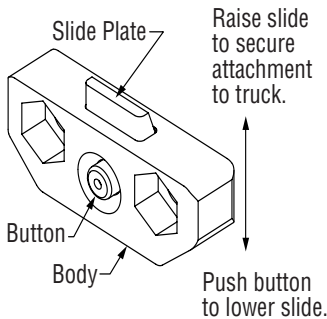

Figure 4-2, Quick hook
3. Remove the lower bolt-on hooks and, if applicable, make a note of any factory installed shims. Shims are used to create clearance between the hook and carriage. If the attachment is equipped with quick hooks, simply depress the button on the back of the hooks, allowing the slide plate to drop. Removal of the quick hooks is NOT recommended. (Figure 4-2)